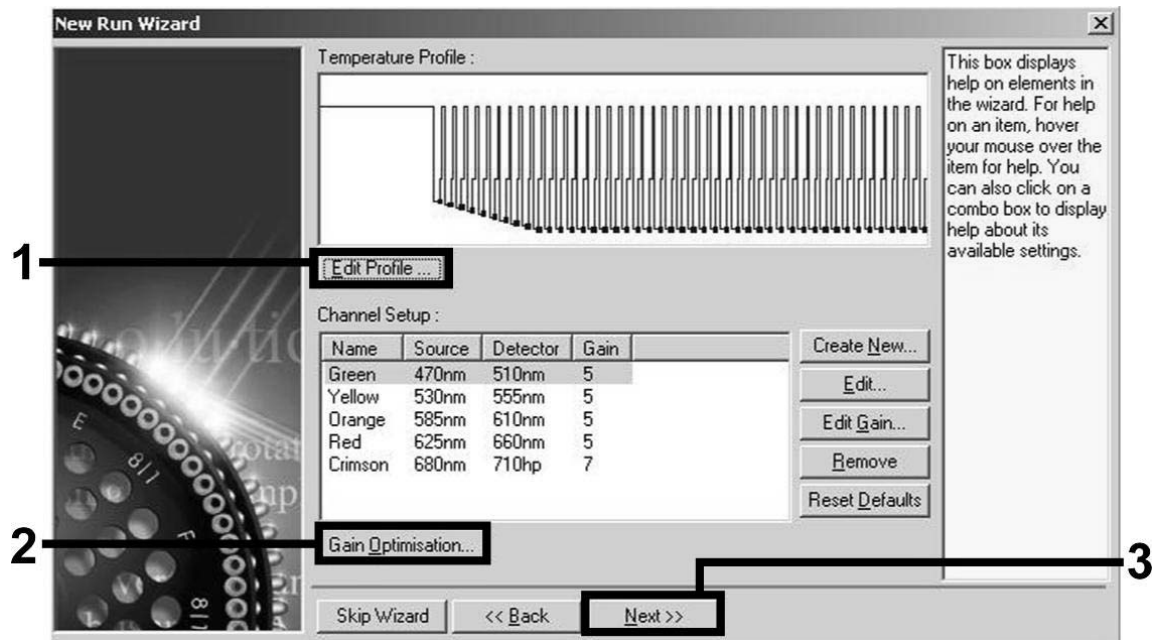
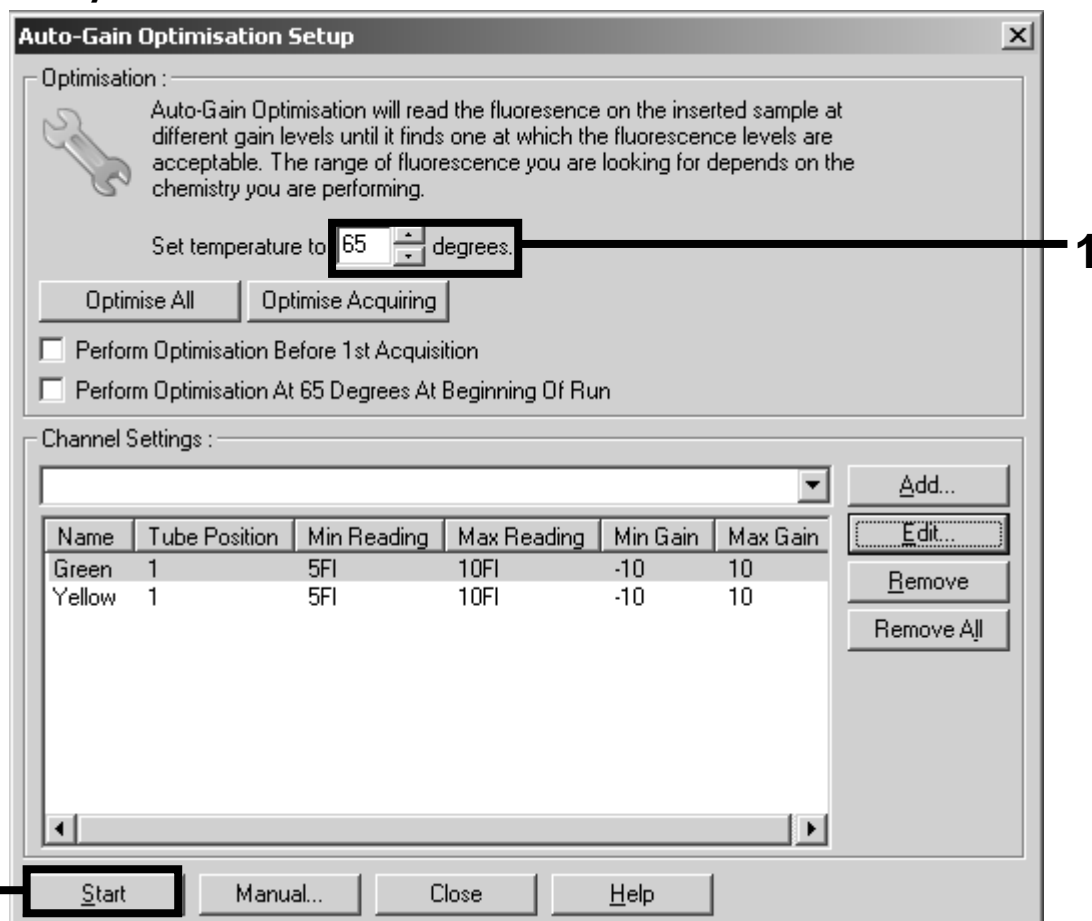

Figure 11. Editing the profile.
Figure 14. Adjusting the fluorescence channel sensitivity.
| Adjusting the fluorescence channel sensitivity | Figures 14–20 |
- Click the “Edit Profile” button in the next “New Run Wizard” dialog box (Figure 11), and program the temperature profile as shown in Figures 11–13).
7. The detection range of the fluorescence channels has to be determined according to the fluorescence intensities in the PCR tubes. Click "Gain Optimisation" in the "New Run Wizard" dialog box (see Figure 11) to open the "Auto-Gain Optimisation Setup" dialog box. Set the calibration temperature to 65 to match the annealing temperature of the amplification program (Figure 14).
8. If you are performing assay setup for a single assay, click "Start" (Figure 14) and proceed directly to step 16, page 53. For a multi-assay run where both CMV and EBV will be assayed in the same PCR, proceed to step 9 to adjust the fluorescence channel intensities manually.